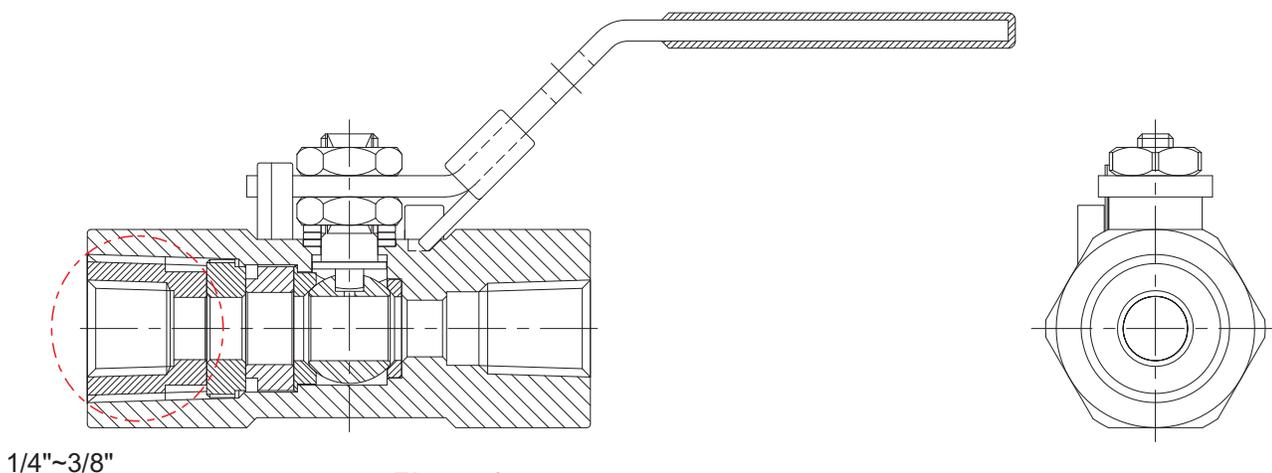

Figure 1
16. 1/4" ~3/8" is an end entry design with an internal insert as shown in **(Figure 1)**. The insert contains a hex or slot drive which can be identified by looking into the end of the valve before installation.